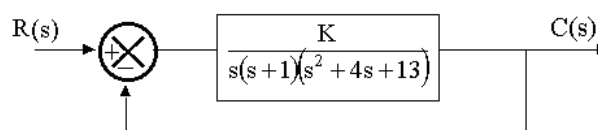

Fig.3
Q.24 Sketch the root loci for the system shown in Fig.3 (14)